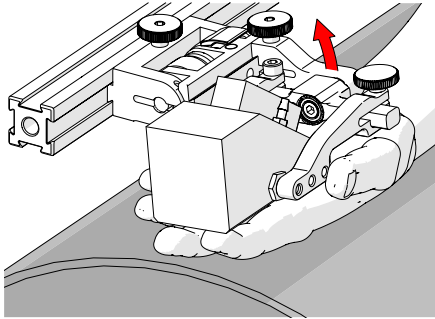

Fig. 72 - Lift to Latched position
1. Ensure probe holder is in latched, upper position (Fig. 72). If the probe holder is already latched, it will only move within the slip joint adjustment range and have no spring tension.
1. Ensure the probe holder is in the upright latched position (Fig. 72).